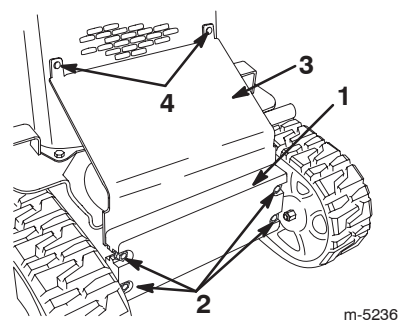

Figure 19
2. Loosen the bolts securing the front weight (Fig. 19).
3. Remove the carriage bolts and nuts securing the heat shield (Fig. 19).
10. Slide the front screen between the frame and the front weight and secure it to the grill using the carriage bolts and nuts removed previously (Fig. 19).
11. Tighten the bolts securing the front weight (Fig. 19).